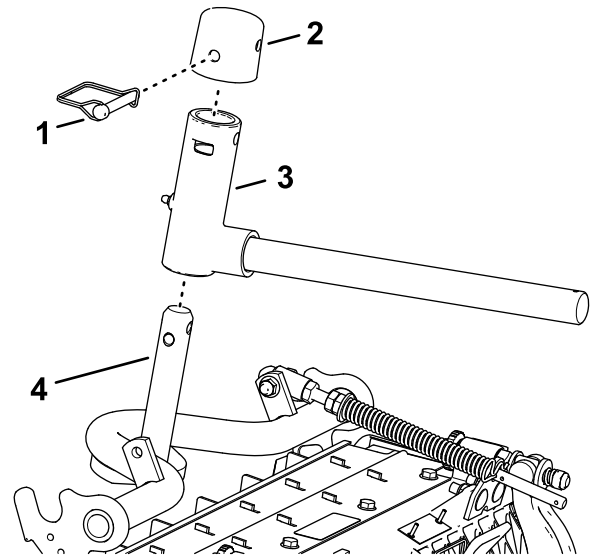

Figure 18
- Assemble the pivot yoke onto the carrier frame shaft (Figure 18).